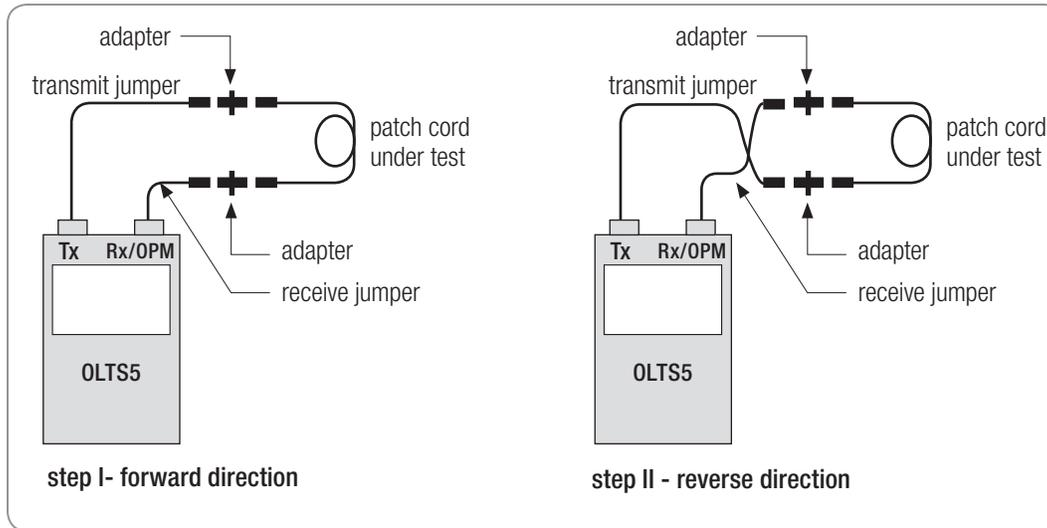

Figure 4-6. Testing Patch Cords - OLTS Single Test Mode
- 2 Attach the receive jumpers to the receive Rx/ OPM port (refer to Figure 4-6, step I).